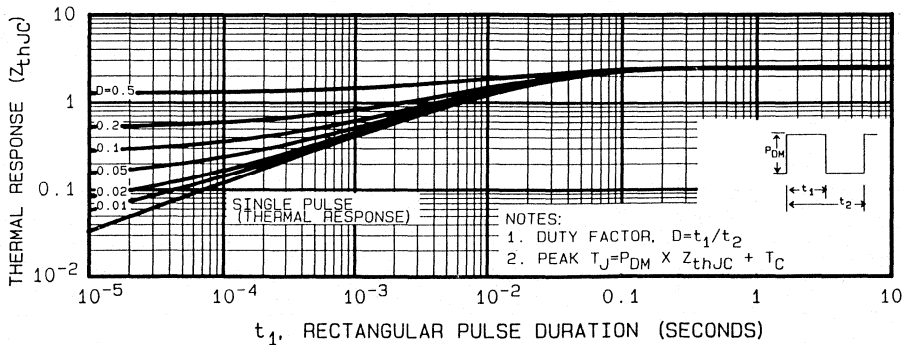

FIGURE 5. MAXIMUM EFFECTIVE TRANSIENT THERMAL IMPEDANCE, JUNCTION-TO-CASE vs PULSE DURATION
3. Repetitive Rating: Pulse width limited by maximum junction temperature. See Transient Thermal Impedance Curve (Figure 5)